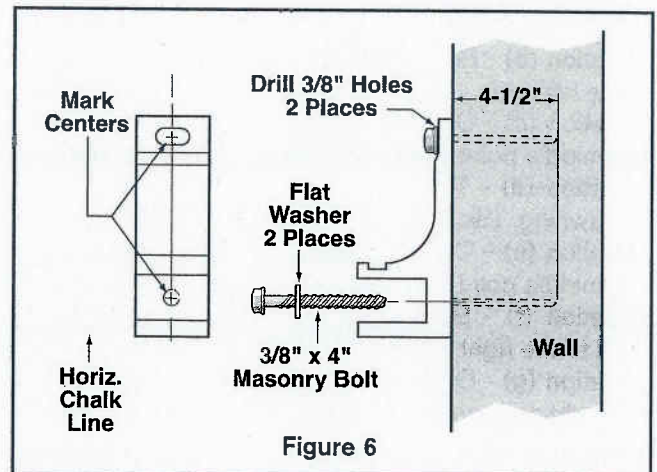

Figure 6
10. Position the bracket on the wall, centered over the vertical line, with the bottom of the bracket even with the lower horizontal chalk line. Using a level, plumb the bracket vertically, then mark the two holes -- see figure 6.
13. Place a flat washer under the head of the masonry bolt and screw the bolt into the hole using a 9/16" socket - see figure 6. Repeat for other bolt. While tightening the bolts, make sure to keep the bracket plumb (use a level if needed). Do not overtighten the bolts.